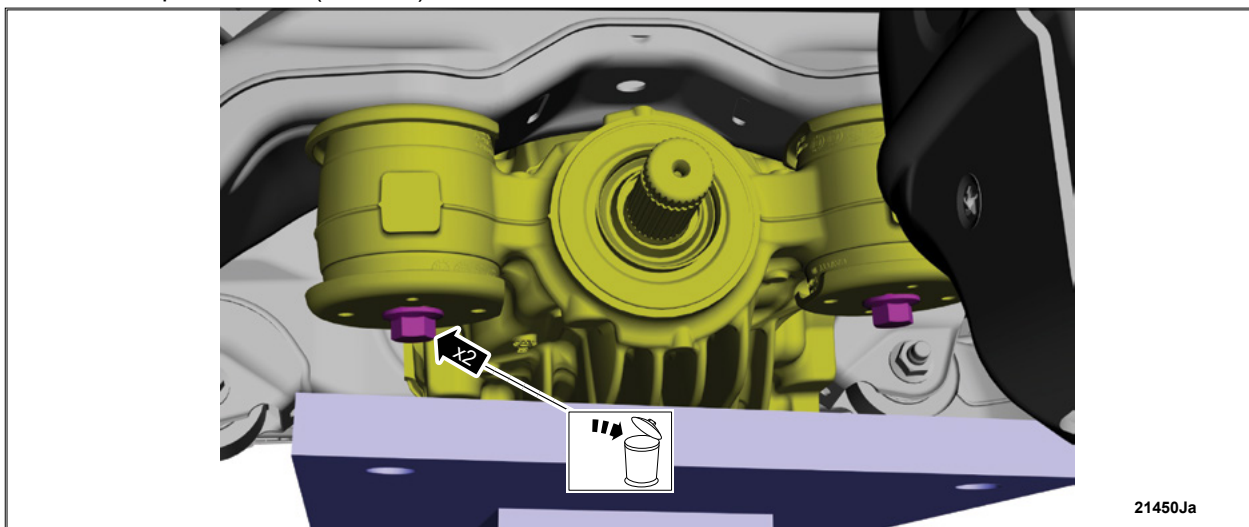

FIGURE 10
17. Remove and discard the rear axle housing support front bolts. See Figure 10.